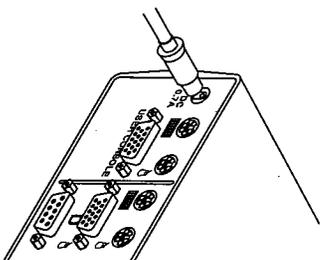

Figure 3-6. Cascade: Attaching the optional 6-VDC power supply.
- For cascaded operation, you should use the optional 6-VDC power supply—our product code PS626 for 110-VAC operation or PS626E for 220-VAC operation—with any Switch that does not have at least one attached PC. (You *should not need* this power supply with any Switch that can get power from an attached PC.) Plug the transformer into the power socket on the Switch's rear panel, as shown in Figure 3-6. Plug the other end into an appropriate AC wall outlet. **In the unlikely event your computer interface does not provide sufficient power to the Personal ServSwitch, please use a Listed Direct Plug-In Transformer marked “Class 2,” or a power supply that is confirmed to be a Limited Power Source (“LPS”), and rated at 6 VDC, 700 mA only.**